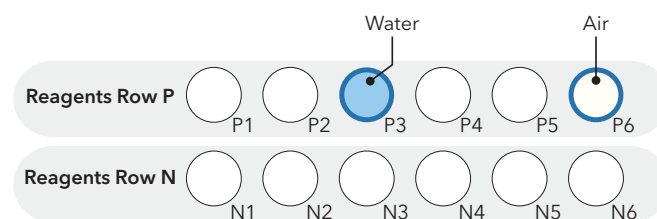

FIGURE 17. cIEF Cartridge Post-run cleanup vial placement.
10. Verify the reagent vials are placed as shown in FIGURE 17. Check that there is at least 1.5 mL of water in vial P3.